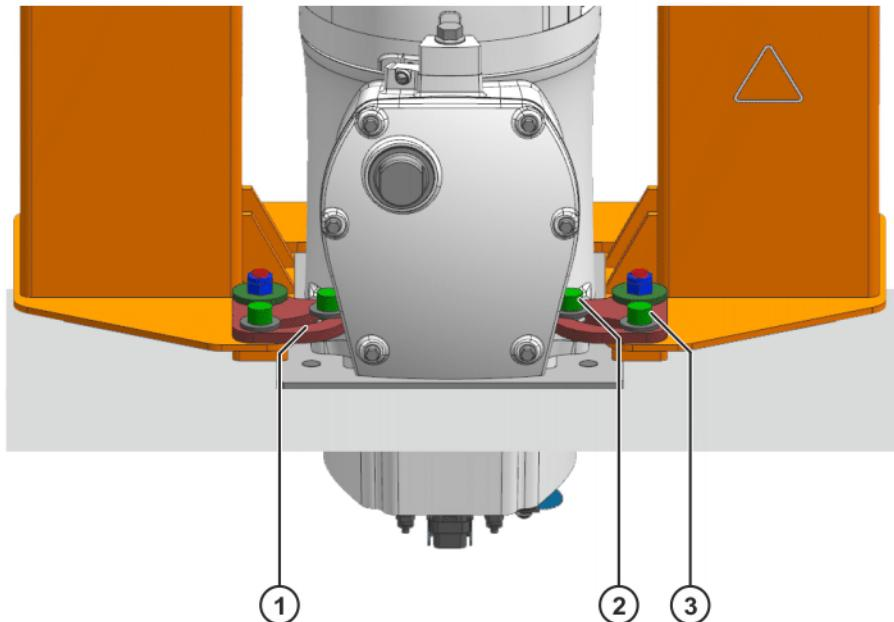

**Fig. 8-9: Pushing on the Load Lifting Attachment and fastening it at the front**
2. Carefully push the Load Lifting Attachment onto the base frame of the robot from the front (>>> Fig. 8-9 ).